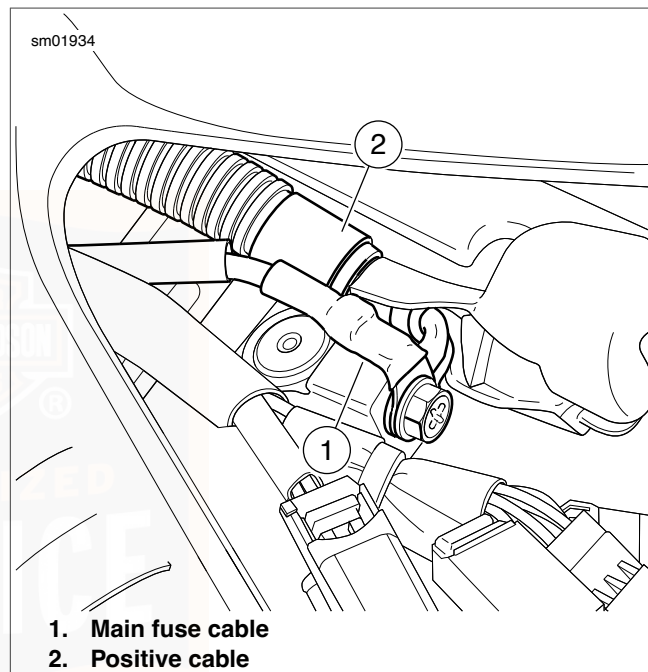

Figure 73. Positive Terminal
4. See Figure 73. Install positive terminal screw through main fuse cable (1) then positive cable (2). Tighten to 60-70 **in-lbs** (6.8-7.9 Nm).